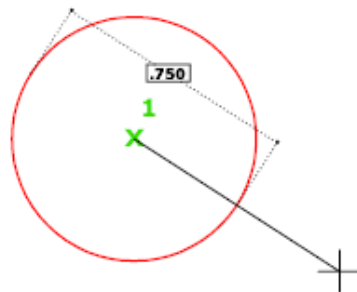

Figure 22
2. **Diameter:** Creates a circle based on a center point and a diameter. Enter a value, or specify a point (see Fig. 22)